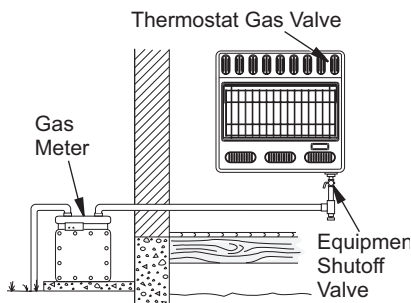
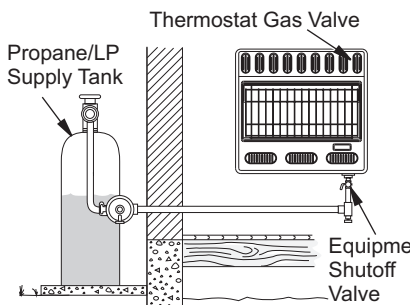

Figure 17 - Checking Gas Joints for Natural Gas (actual heater may vary from illustration)
Figure 18 - Checking Gas Joints for Propane/LP Gas (actual heater may vary from illustration)
3. Check all joints from gas meter for natural gas (see Figure 17) or propane/LP supply to equipment shutoff valve (see Figure 18). Apply a noncorrosive leak detection fluid to all joints. Bubbles forming show a leak.
4. Check all joints from equipment shutoff valve to thermostat gas valve (see Figure 17 or 18). Apply a noncorrosive leak detection fluid to all joints. Bubbles forming show a leak.